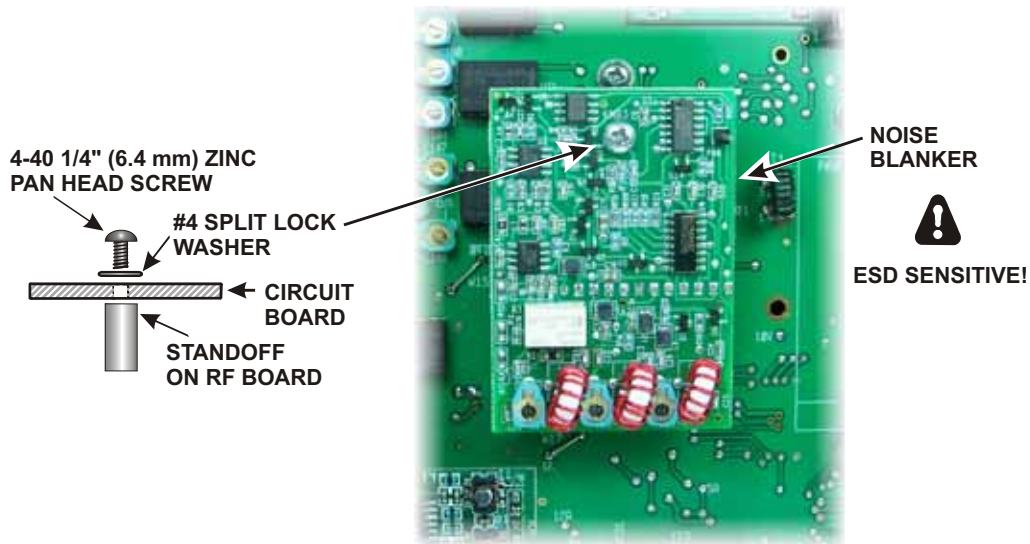

Figure 72. Installing the Noise Blanker Board.
- Plug the noise blanker board into J77 and attach it to the standoff using the hardware shown in Figure 72.